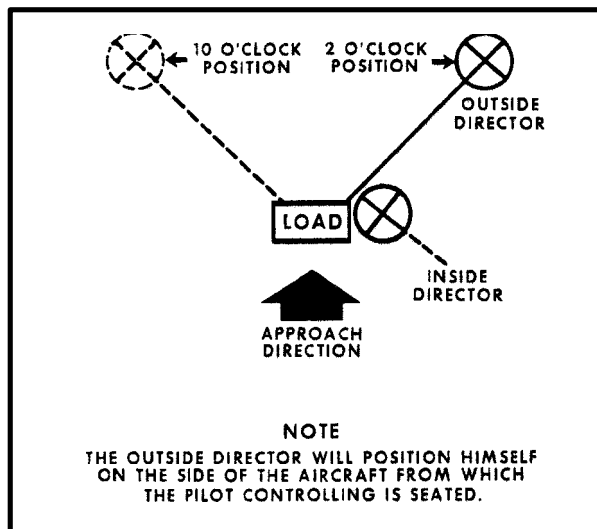

Figure 5-3. HST Initial Position
**f. Positioning Personnel (USMC).** Marine Corps HST operations require different positions for the HST personnel (Figure 5-3). As the helicopter approaches the landing site, the outside director is at a position of 2 (or 10) o'clock upwind of the load. From this position he is able to guide the helicopter over the load with the use of a hand signal or a flashlight. The hookman is